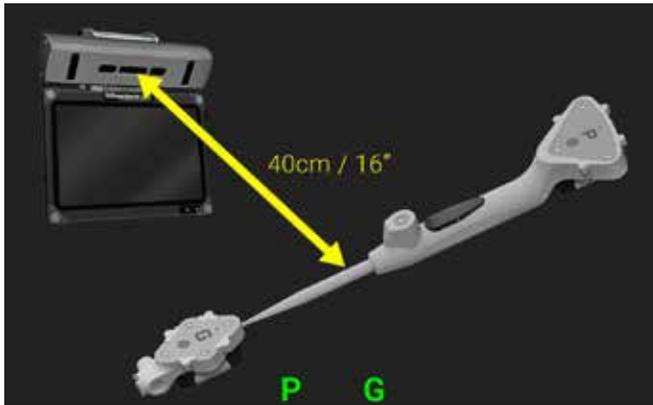

Figure 9
One-Step Calibration: Place the tip of the **Probe Tracker (P)** into the dimple at the top of the **G Tracker**. Hold both together at a distance no greater than 40 cm/16 inches from the display unit, ensuring the tracker faces are visible to the camera. When positioned correctly, both G and P will show as green on the screen (*Figure 9*).